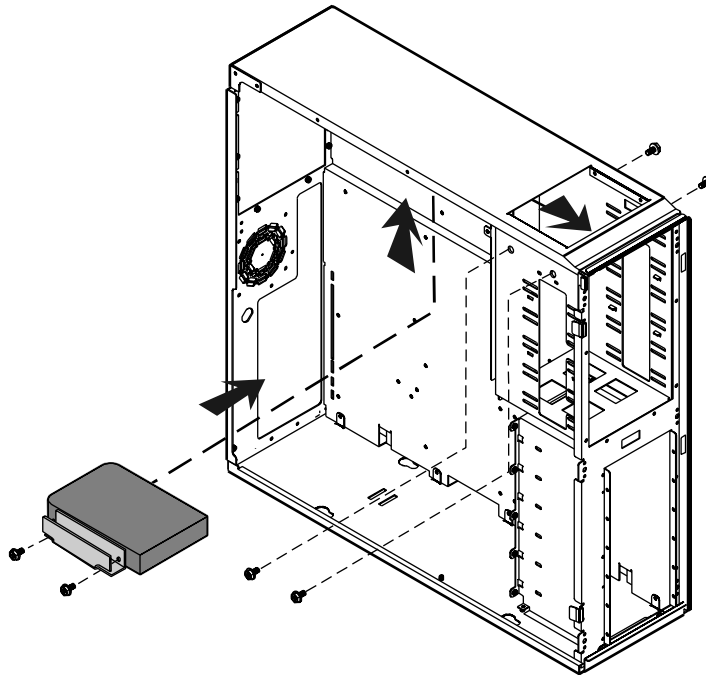

Figure 21: Replacing the 3.5-inch Drive in the Top Drive Bay
6. Secure the bracket to the left side of the new drive, using the two screws you just removed (see Figure 21).